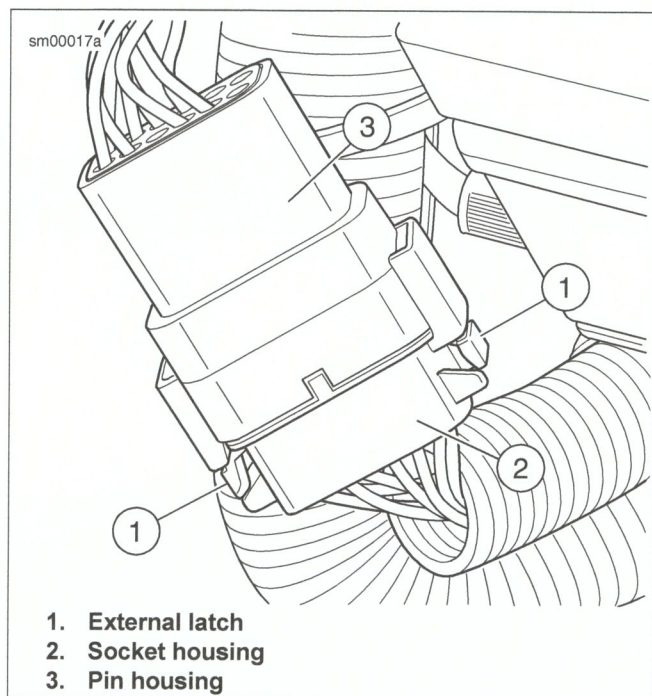

Figure A-5. Deutsch DT Sealed Connector
- See Figure A-5. Press the latch(es) (1).